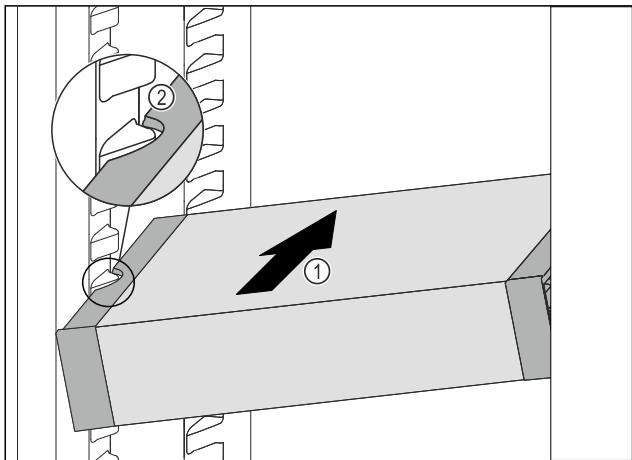

Fig. 82
- ▶ Insert the VarioSafe into the fridge section at an angle *Fig. 82 (1)* until the recesses in the side *Fig. 82 (2)* of the VarioSafe are at the level of the support rib in the fridge section.